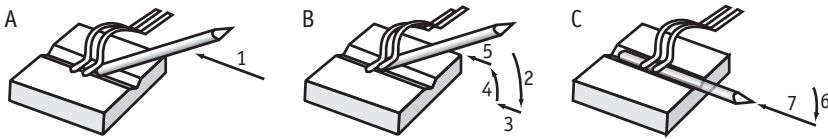

Figure 3-4: Mounting the tip under the double clamp
- ❶ Hold the tip wire at a slight angle, and move it along the groove against the first clamp, so that the end of the wire is under the clamp (*Figure 3-4: Mounting the tip under the double clamp, A*).
- ❷ Lower the wire so that it lifts the first clamp (*Figure 3-4: Mounting the tip under the double clamp, B*).
- ❸ Push the wire in, until it touches the second clamp.
- ❹ Lift the wire.
- ❺ Push the end of the wire below the second clamp.
- ❻ Lower the wire so that it lifts the second clamp (*Figure 3-4: Mounting the tip under the double clamp, C*).
- ❼ Push the wire under the second clamp.